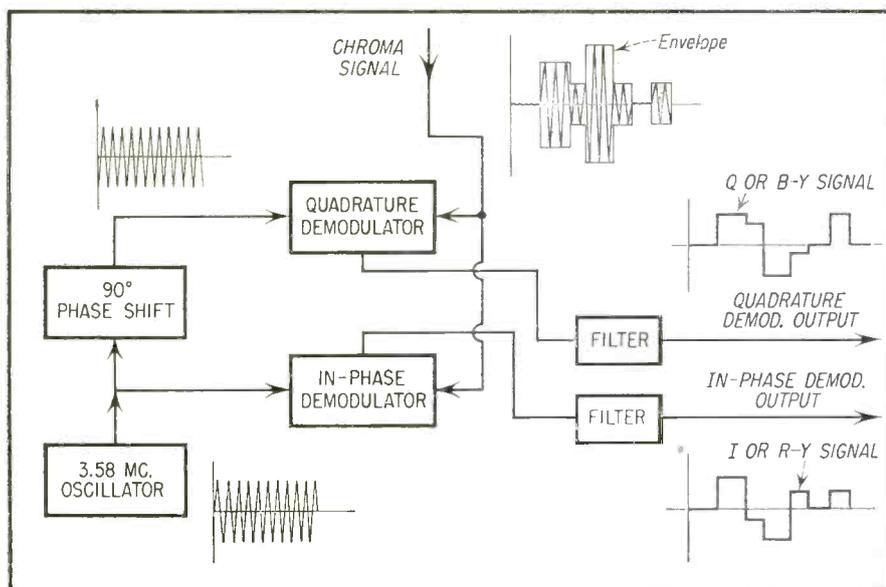

Fig. 1—Basic block diagram of two-phase demodulation process Waveforms shown in figure are not drawn to scale.
**I**n the previous installment it was pointed out that the color demodulator performs the function of converting the color-sideband signals contained in the chrominance (chroma) signal into I/Q or R-Y/B-Y color-difference signals. The block diagram shown in Fig. 1 illustrates the basic process of demodulating a chrominance signal. Notice that the filtered output of the in-phase demodulator section contains the I or R-Y color-difference signal, and that the filtered output of the quadrature de-